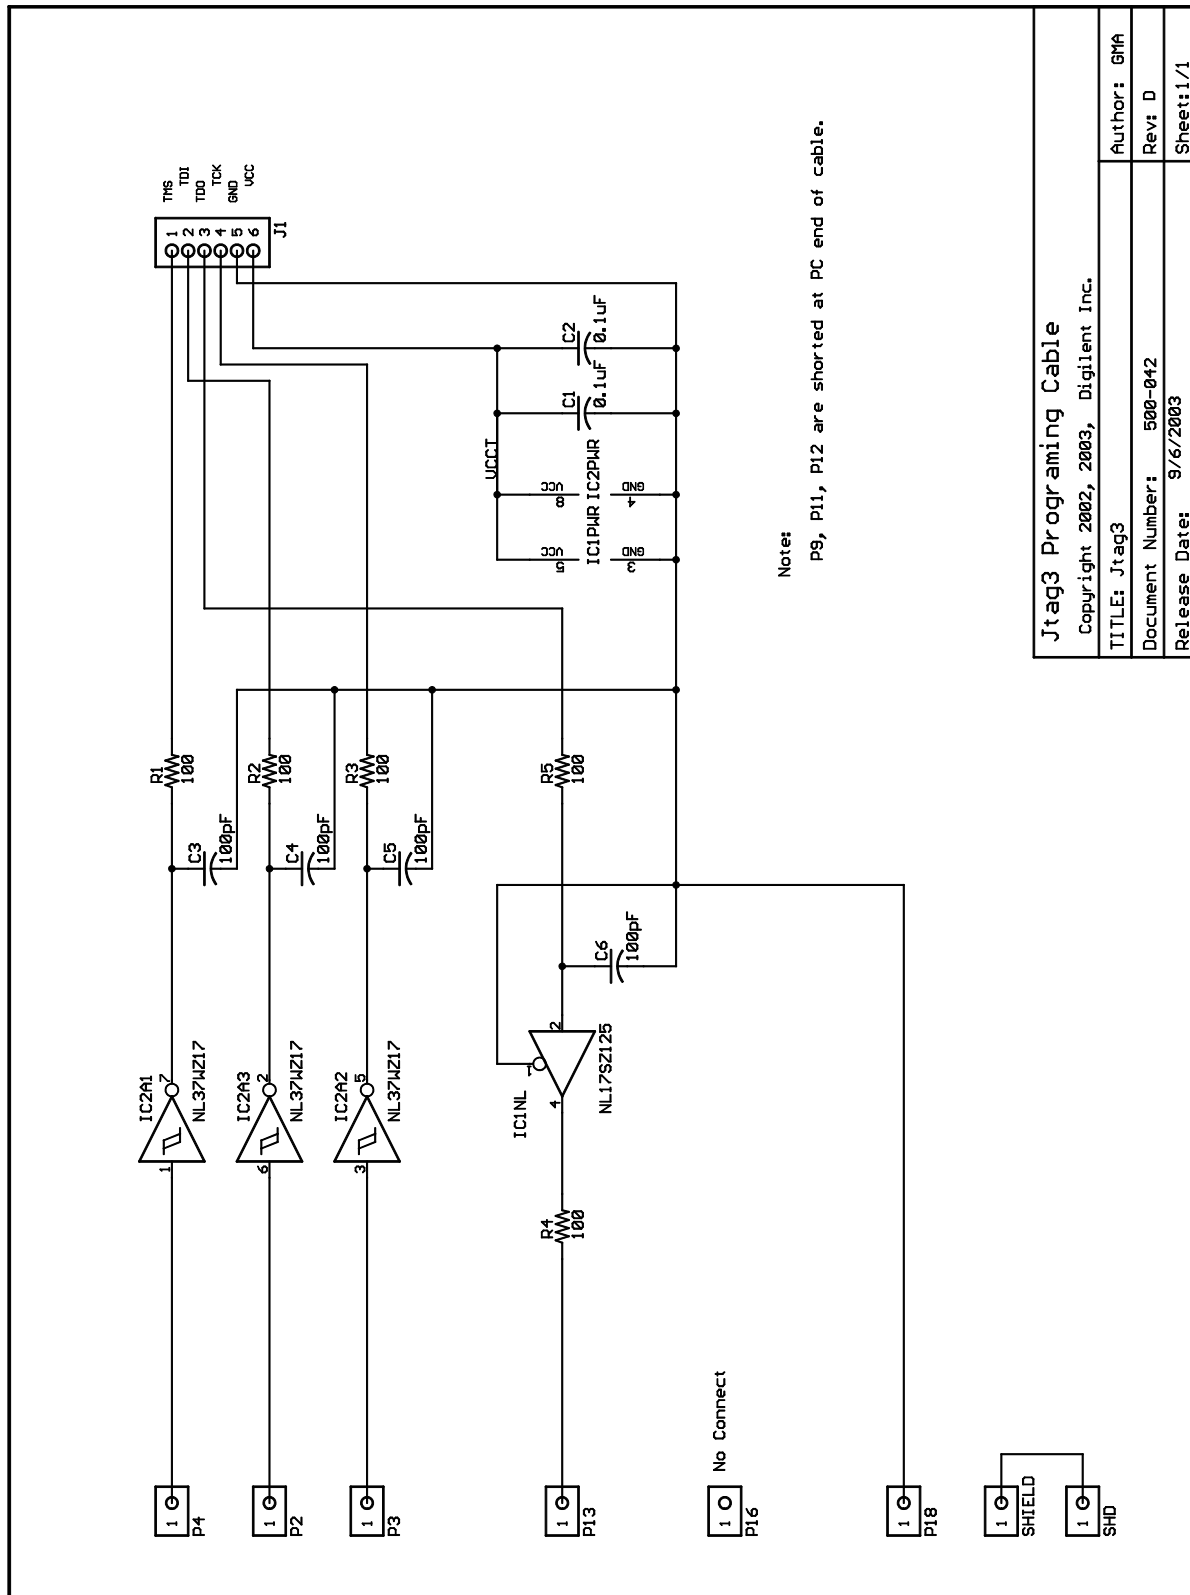

Figure A-9: Digilent JTAG3 Low-Cost JTAG Download/Debug Cable
- Figure A-9, “Digilent JTAG3 Low-Cost JTAG Download/Debug Cable”